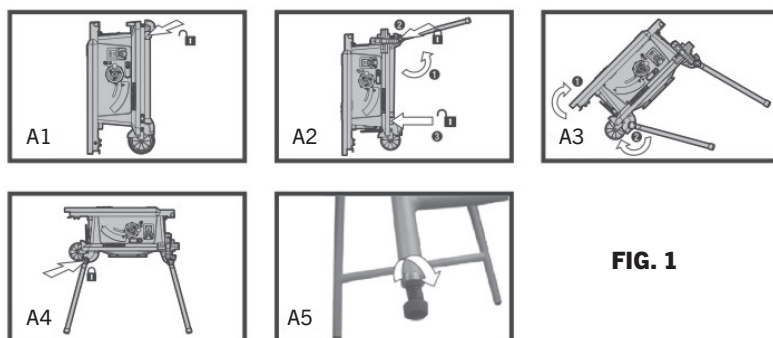

FIG. 1
1. Start by placing the saw on its wheels (A1). Unlock the upper legs and swing them upwards, then lock them in place (A2). Next, unlock the lower legs (see Fig.1).
3. The saw features an adjustable spring leg (Fig. A5). Rotate it clockwise or counterclockwise to adjust to your desired length (A5) (see Fig.1).